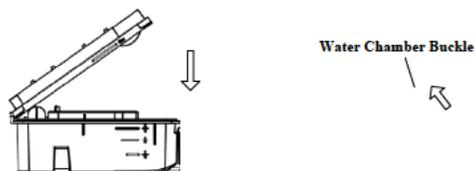

Fig. 5-6
(3) Assembling the Water Chamber: Place the two parts of the water chamber together as shown in Fig.5-6. Press hard until they click into place.